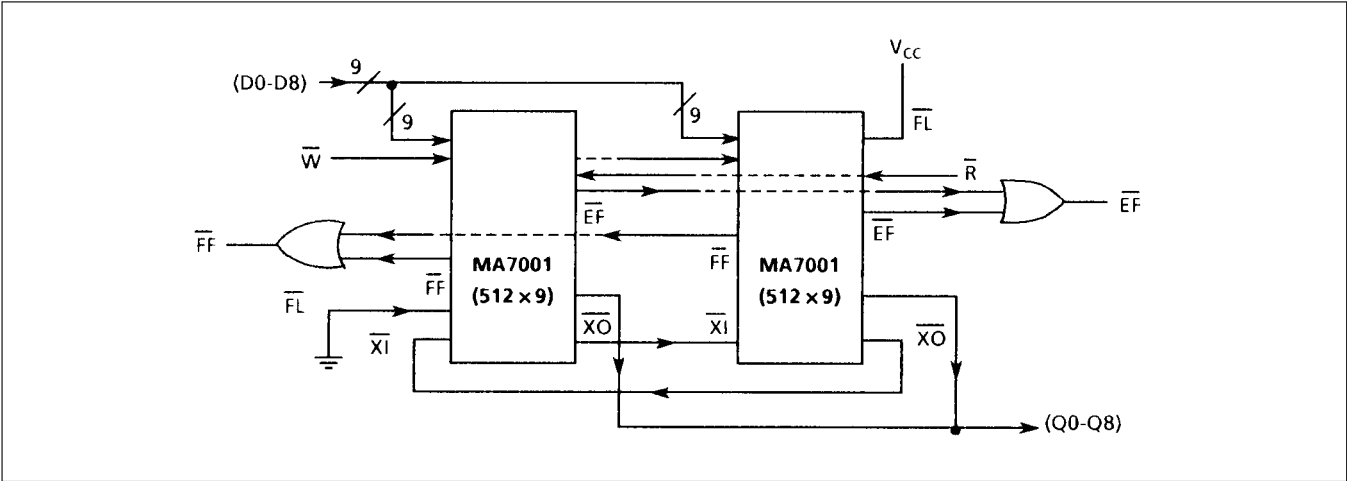

Figure 12: Depth Expansion Mode (1024 x 9 bits)
2. $\bar{XI}$ is connected to $\overline{XO}$ of previous device (Figure 12).
Figure 12 illustrates depth expansion of 2 devices (1024 x 9).